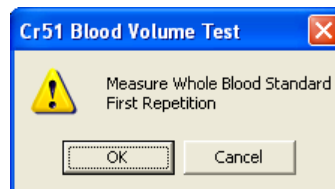

Figure 10-59
5. The screen appears as shown in Figure 10-59, prompting you to measure the whole blood standard.